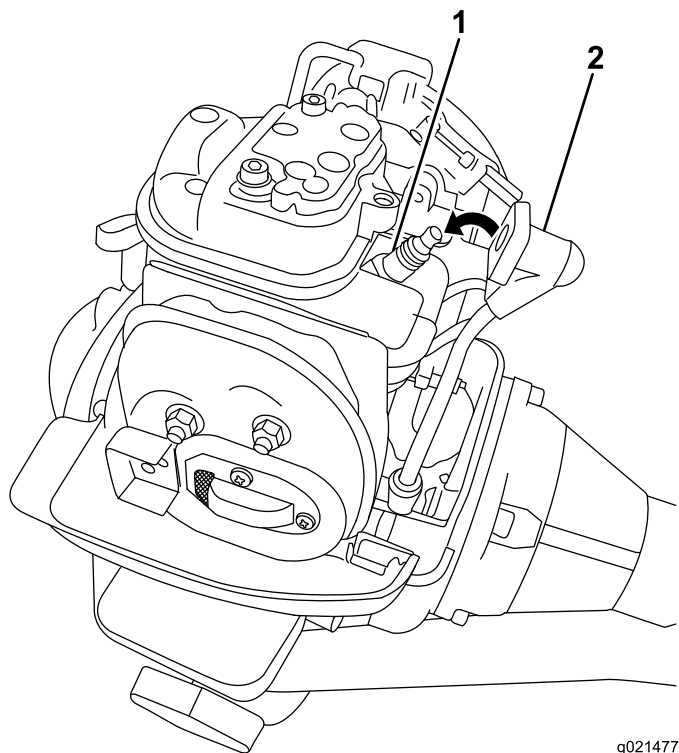

Figure 29
4. Pull the spark-plug wire off the terminal of the spark plug (Figure 29).
4. Install the spark-plug wire pushing the wire onto the terminal of the plug (Figure 29).